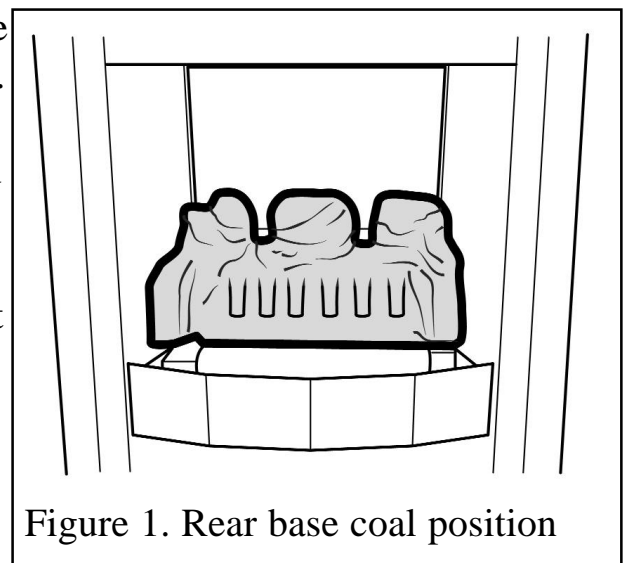

Figure 1. Rear base coal position
1. Place the rear base coal in the firebox. It should rest on the ledges at the rear sides of the burner unit. When located gently move the rear base coal so that it is as far forward as possible. The amount of movement will be negligible (See figure 1).